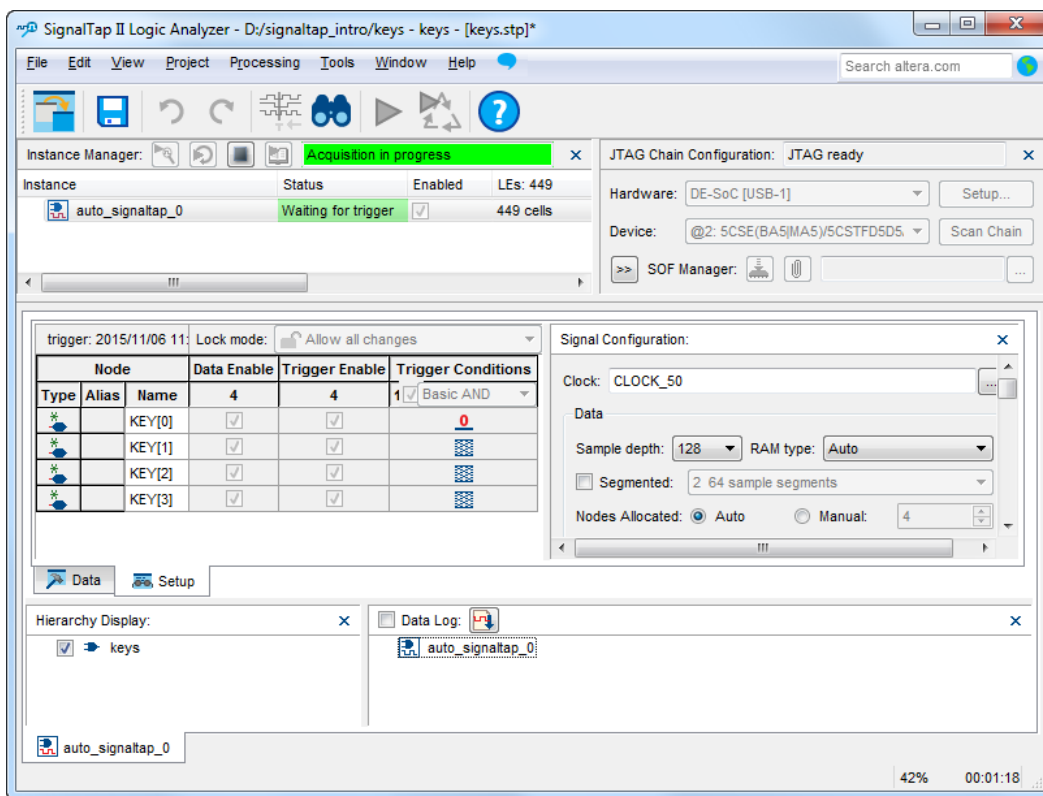

Figure 12. SignalTap II window on a DE-series board after Run Analysis has been clicked.
- On the DE-series board, first ensure that none of the keys (0-3) is being pressed. We will try to probe the values of these keys once key 0 is pressed.
- In the SignalTap window, select **Processing > Run Analysis** or click the  icon. You should get a screen similar to Figure 12. Note that the status column of the SignalTap II Instance Manager pane says "Waiting for trigger." This is because the trigger condition (Key 0 being low) has not yet been met.